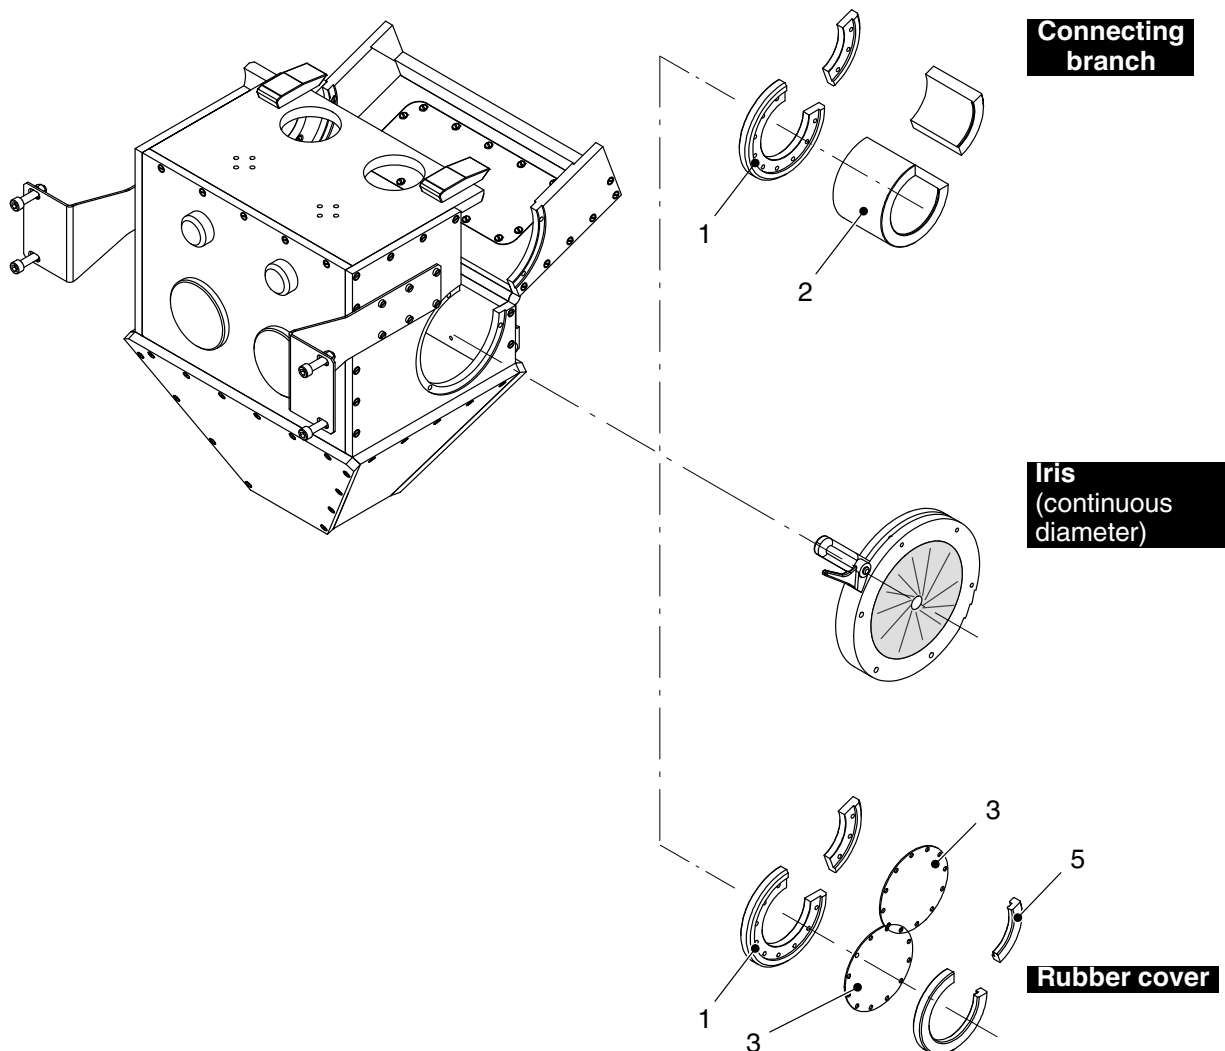

Fig. 4-1
- A. Size D80 and D100: Screw the connecting branch (2, Fig. 4-1) onto the adapter (1). Screw the assembly onto the spray chamber.
- B. Size D125: Screw the connecting branch (2, Fig. 4-1) directly onto the spray chamber.
Punch or cut hole in both rubber covers (3, Fig. 4-1). Cut one to 3/4 circumference and the other to 1/4 circumference.